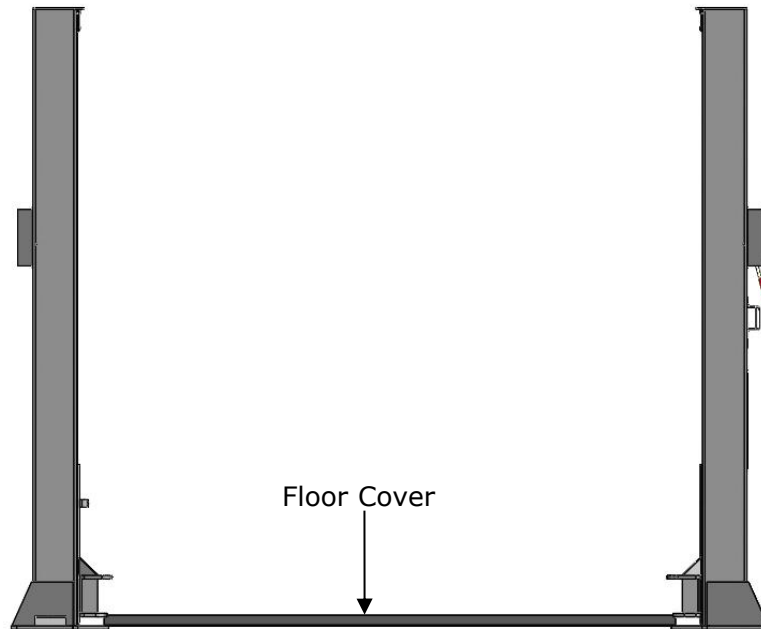

Fig.24
M. Install floor cover (See Fig. 24).